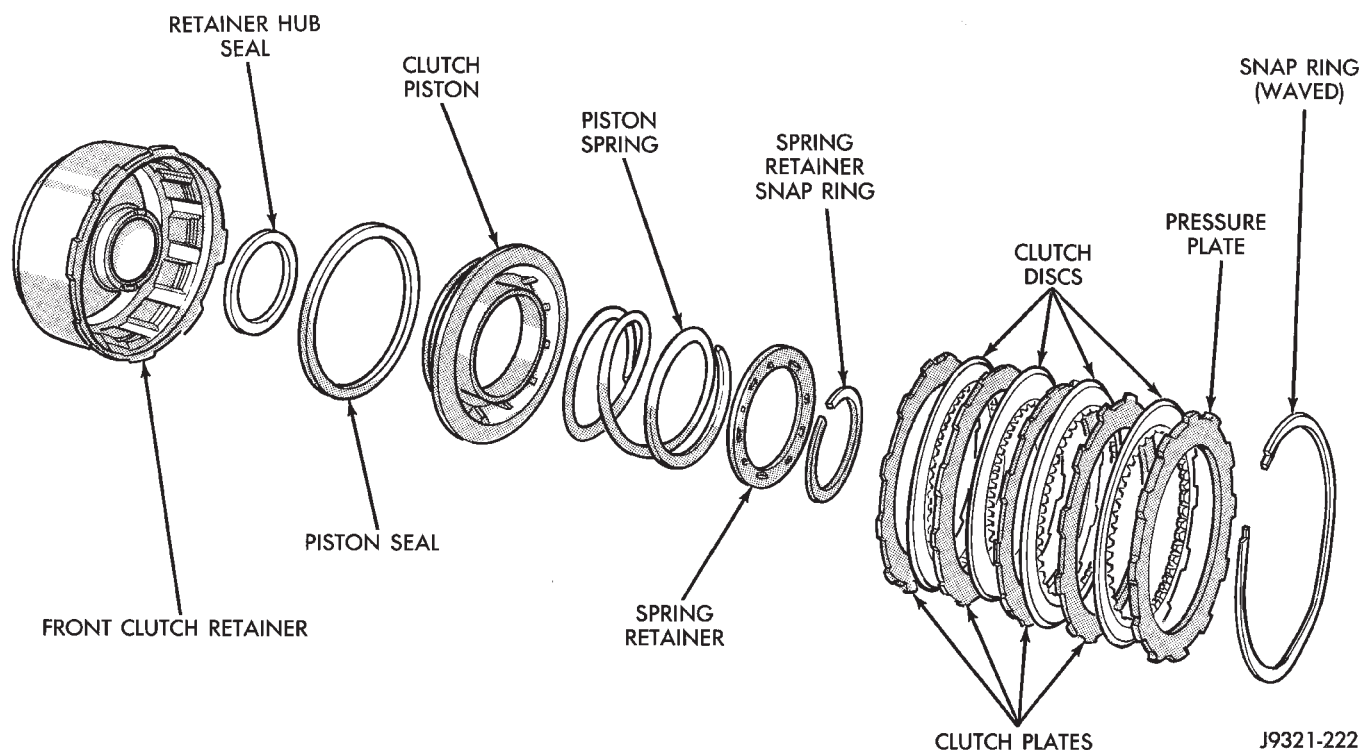

Fig. 52 Front Clutch Components
(1) Remove waved snap ring and remove pressure plate, clutch plates and clutch discs (Fig. 52).
(8) Install clutch plates and discs (Fig. 52). Install steel plate then disc until all plates and discs are installed.
(9) Install pressure plate and waved snap ring (Fig. 52).